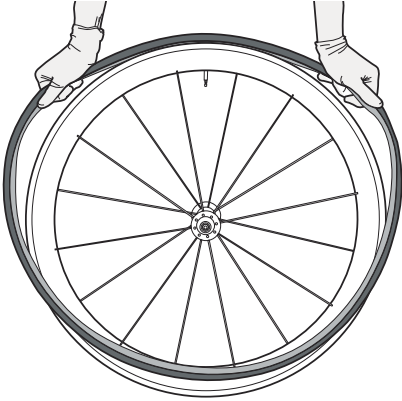

Figure 33.
6. With your hands to the right and left of the valve, grasp the tread and sidewall of the tire and press down as you work the tire onto the rim bead (Figure 33 and 34).